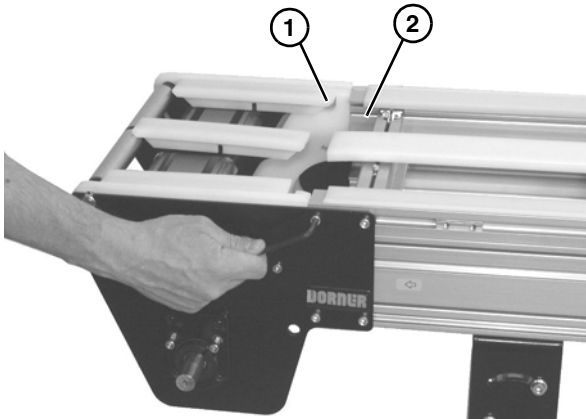

Figure 40
When reinstalling the drive spindle tail assembly, the terminal assembly (**Figure 40, item 1**) should mate flush with the conveyor frame (**Figure 40, item 2**).